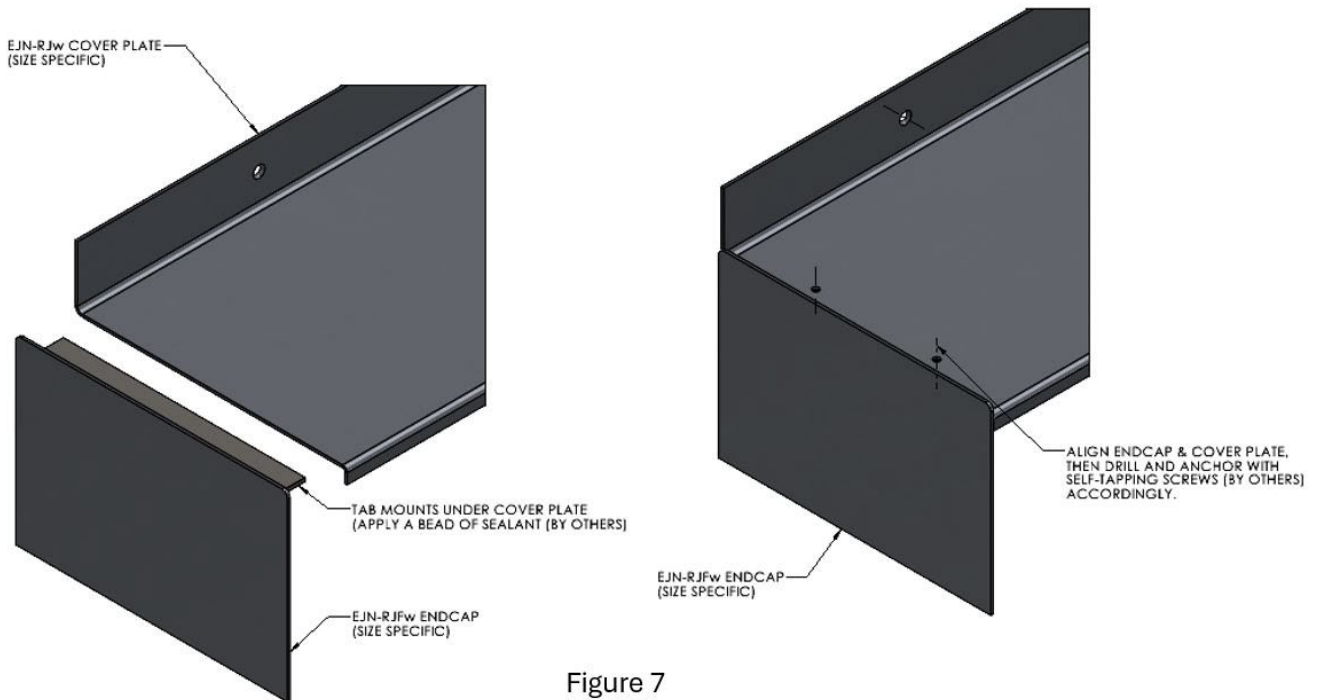

Figure 7
7. Install Endcaps (if ordered) per **Figure 7**.
7. Install endcaps (if ordered) as needed per **Figure 7**.